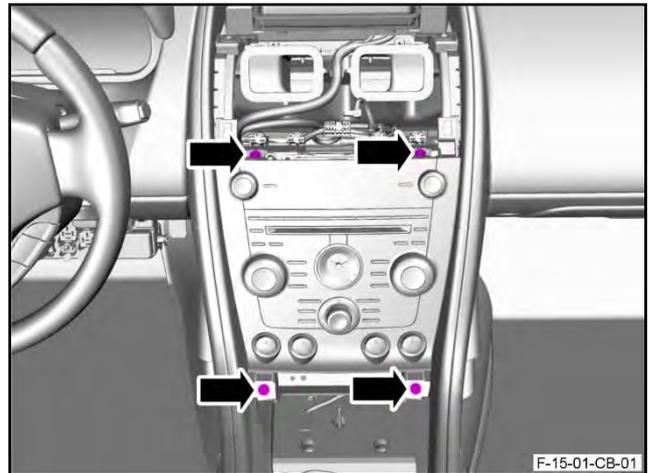

Figure 51
62. Remove the four screws that attach the centre stack assembly to the IP (refer to Figure 51).